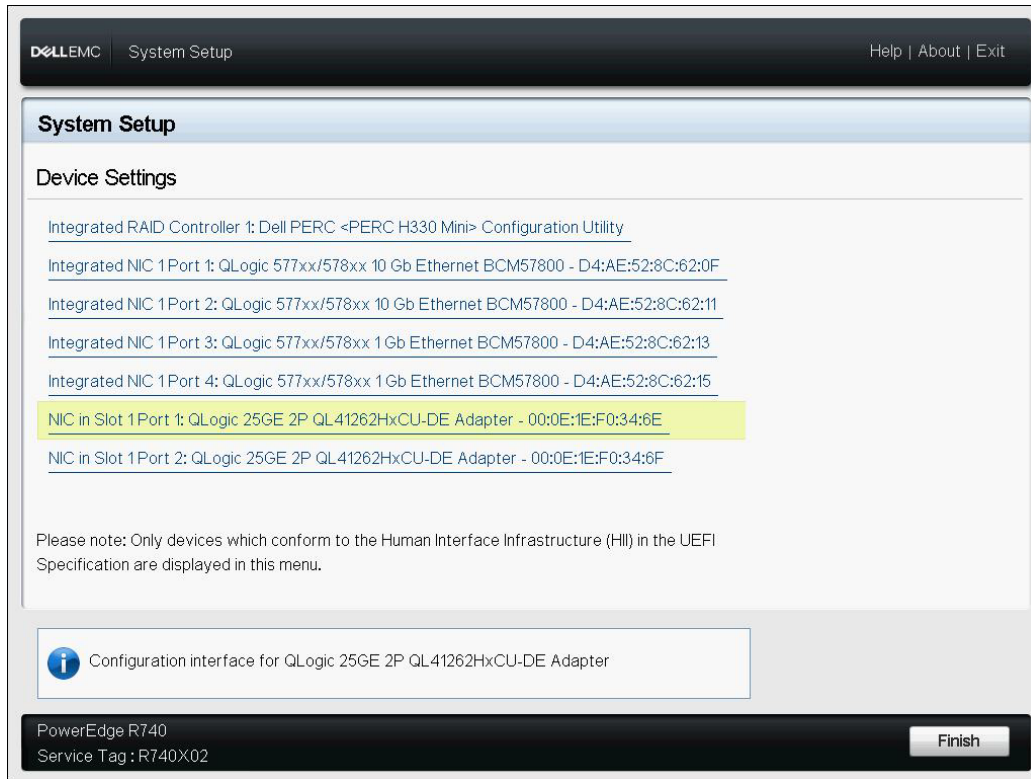

Figure 6-2. System Setup: Device Settings
1. In the System Setup, Device Settings, select the QLogic device (Figure 6-2). Refer to the OEM user guide on accessing the PCI device configuration menu.